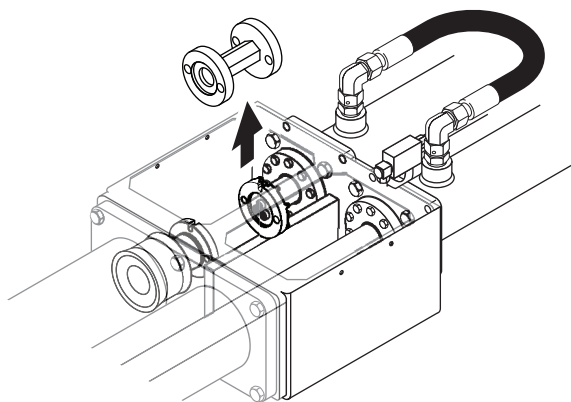

Figure 23
7. Remove the spacer coupling from the waterbox (Figure 23).